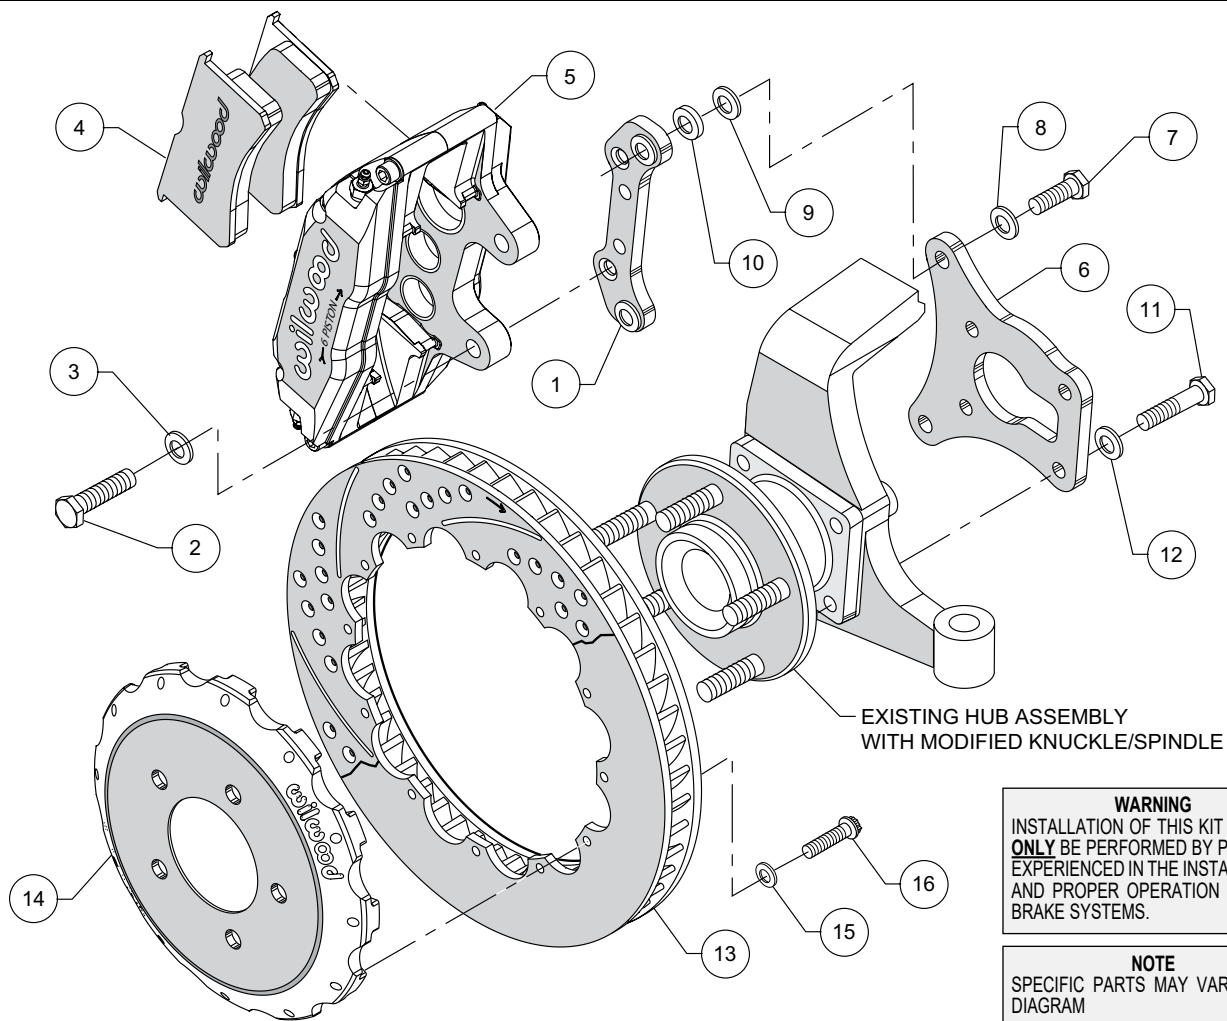

Figure 1. Typical Installation Configuration
NOTE: Numbers in parenthesis refer to the parts list and Figure 1 on the preceding pages.
•**NOTE:** Please reference the caution statement at the beginning of the assembly instructions. This kit contains distinct right and left hand calipers that must be mounted in a specific direction, as described below. Mount the caliper (5) onto the caliper mounting bracket (1) using bolts (2) and washers (3), as shown in Figure 1. Torque bolts (2) to 60 ft-lb. Mount the caliper/bracket combination to the spindle bracket (6) using bolts (7) and washers (8). Initially place one .030" thick shim (9), and spacer (10) on each bolt between the two brackets (1 and 6) as shown in Figure 1. Ensure that the caliper is mounted so the largest pistons are at the rotor exit end of the caliper, in relation to the direction of rotor rotation. Temporarily tighten the mounting bolts and view the rotor (13) through the top opening of the caliper. The rotor should be centered in the caliper. If not, adjust by adding or subtracting shims (9) between the caliper mounting brackets (1) and the spindle brackets (6). Always use the same amount of shims on each of the two mounting bolts. **NOTE:** The end of each bolt must be flush with or slightly protruding from the head of the clinch